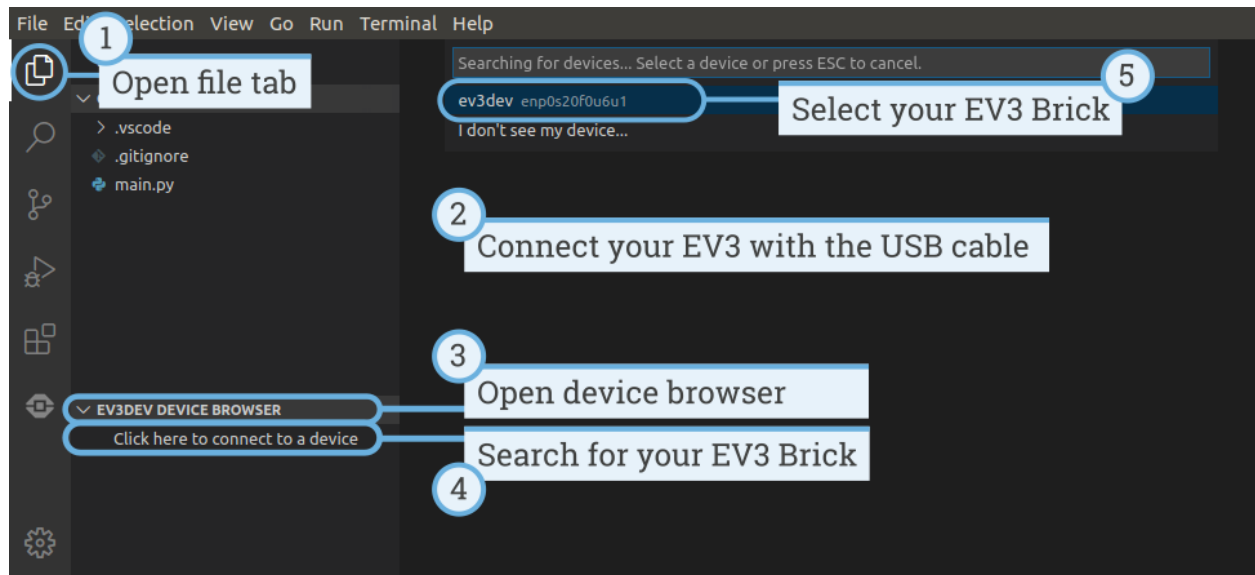

Figure 1.12: Configuring the USB connection between the computer and the EV3 Brick
- Configure the USB connection as shown in Figure 1.12.